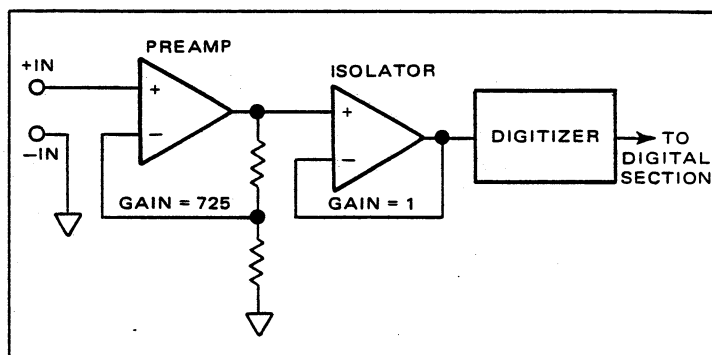

Figure 5.7 - 10 Millivolt DC Range
5.3.4.3.7 *10 Millivolt Range (Option 41).* The signal from the +IN terminal is routed through the contacts of the 10 mV and Preamp Select relays to the positive input of the Preamplifier. The filtered output of the Preamplifier is fed through contacts of the Preamp Select and .1+1 relays to the positive input of the Isolator. The unfiltered output of the Preamplifier is fed through contacts of the Preamp Select relay to the Gain Resistor string. A feedback signal from the Gain Resistor string is applied to the negative input of the Preamplifier (through the contacts of the Preamp Select relay) to obtain a Preamplifier gain of 725. The Isolator output is fed back directly to the negative input (through the normally closed contacts of the .1+1 relay) to obtain a closed loop gain of 1.0. The -IN terminal is connected to analog common through contacts of the Ohms relay. A simplified block diagram is shown in Figure 5.7.